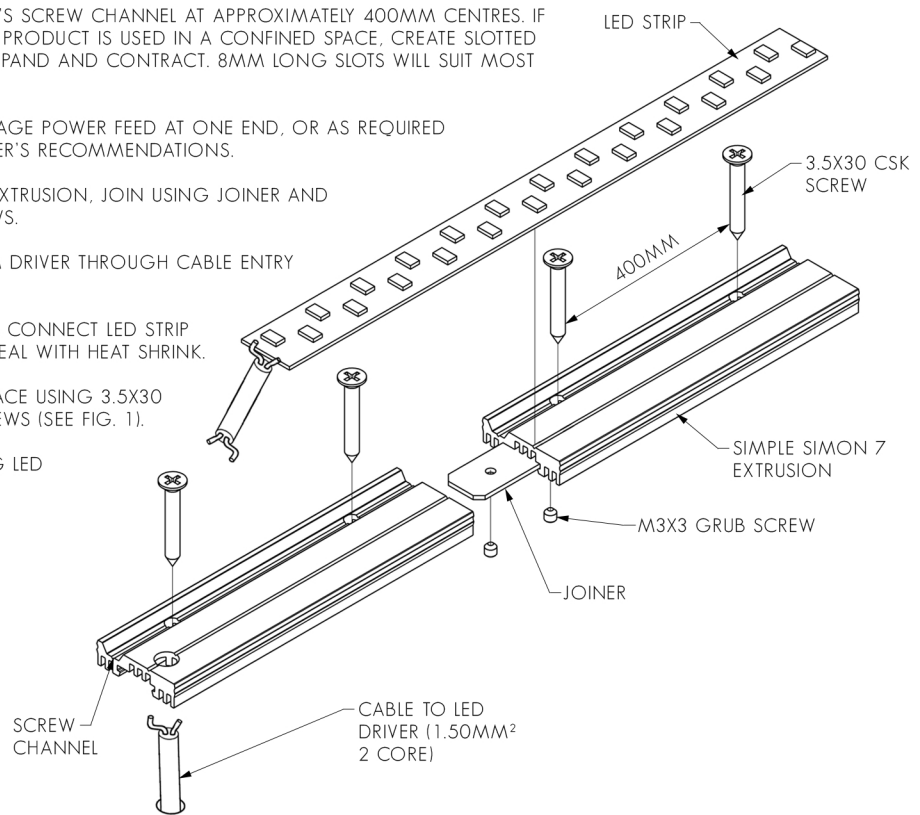

FIG. 1 - ENSURE EXTRUSION IS MOUNTED SECURELY
6. SCREW-FIX EXTRUSIONS TO SURFACE USING 3.5X30 CSK SELF-TAPPING OR WOOD SCREWS (SEE FIG. 1).